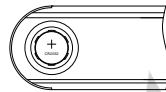

Fig.2
- Insert CR2032, the positive should face up (Fig.2)